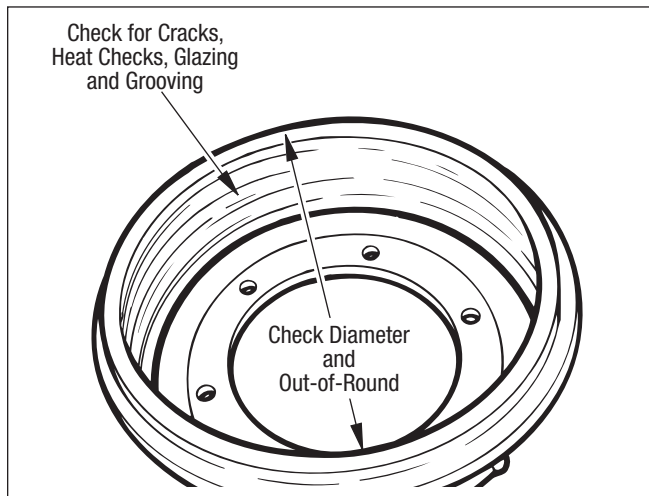

Figure 34 – Drum Inspection
1. Check for cracks, heat-checks, glazing, grooving, run-out, and out-of-round. Refer to Figure 34. Cracked drums must be replaced. Drums which are glazed, grooved, out-of-round, etc., may be returned to service if they can be repaired without exceeding manufacturer's maximum diameter or run-out specifications.